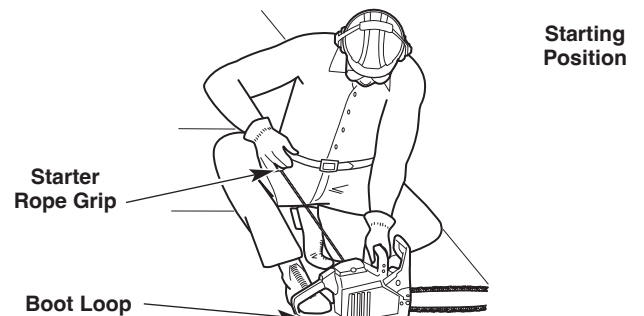

Fig. 5
WARNING: Avoid accidentally starting the unit. To avoid serious injury, the operator and the unit must be in a stable position when pulling the starter rope (Fig. 5).
10. **DO NOT** touch the throttle control. Crouch in the starting position (Fig. 5). Hold the front handle with the left hand. Hold the starter rope grip with the right hand. Insert the right foot into the boot loop to help hold the unit firmly in place.
11. **DO NOT** touch the throttle control. Pull the starter rope with a controlled and steady motion **5 times** (Fig. 5).